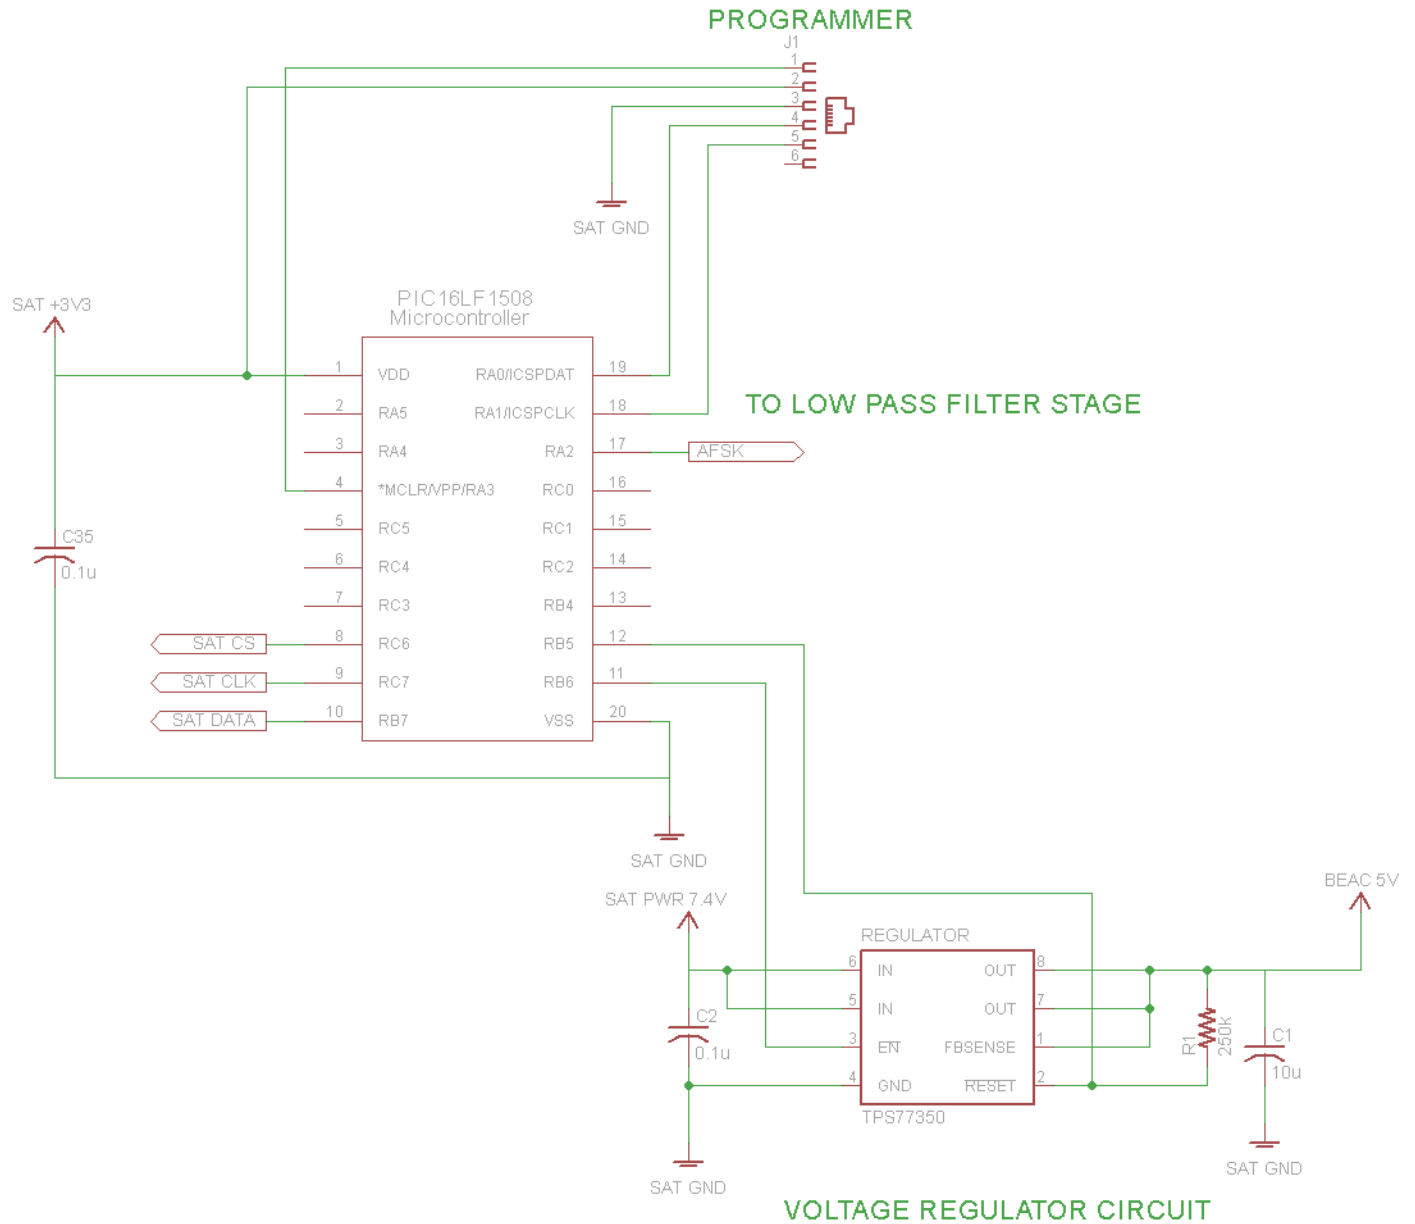

Figure 11: Schematic of the microcontroller and power control sections of the transmitter.
**Description:** The microcontroller will be a PIC16LF508. This is microcontroller was chosen due to its very low power operation and onboard DAC capability that can generate the analog signals we need. It will be programmed primarily in C in Microchips MPLAB X IDE. Parts that need to be very fast may be written in assembly. Specifically, it may possible to get a cleaner sine wave if the DACs voltage level is switched in assembly rather than C. The microcontroller will act as an SSI slave device and receive data from the satellites main CPU. After it has read an entire packet from the CPU, it will generate a AFSK signal of the packet at 600 baud, using the frequencies 1.2 and 1.8 kHz. After finishing transmitting the data, it will send an acknowledgement back to the CPU. Figure 3 shows the microcontroller's general program flow. The microcontroller will also control the power to the transmitter. When there is no data to transmit, the microcontroller will send a signal to the voltage regulator to shut off the power to the other components. A schematic of the microcontroller is shown in fig. 11 (page 13).